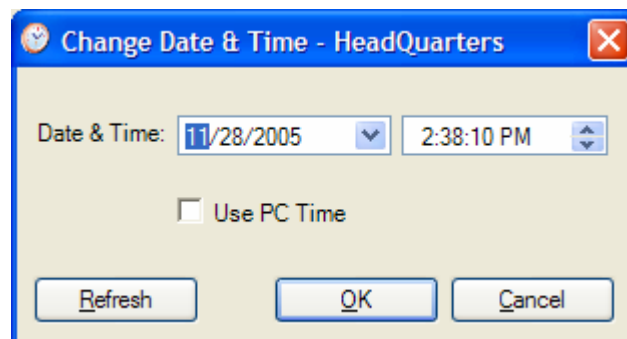

Figure 4-16. Manually changing date and time
6. To manually set the date and time, click Change (*Figure 4-16*) and edit the new values.